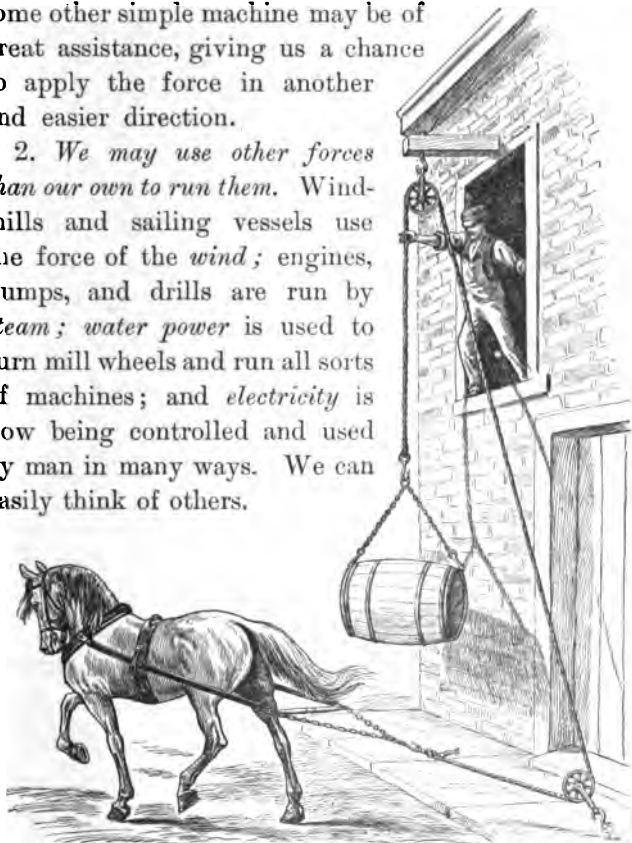
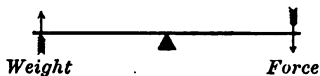

FIG. 82
FIG. 83
1. *They may be used to change the direction in which force is applied.* Of such machines the pulley (Fig. 82) and some levers (Fig. 83) are most common. In many cases it is inconvenient and sometimes impossible to